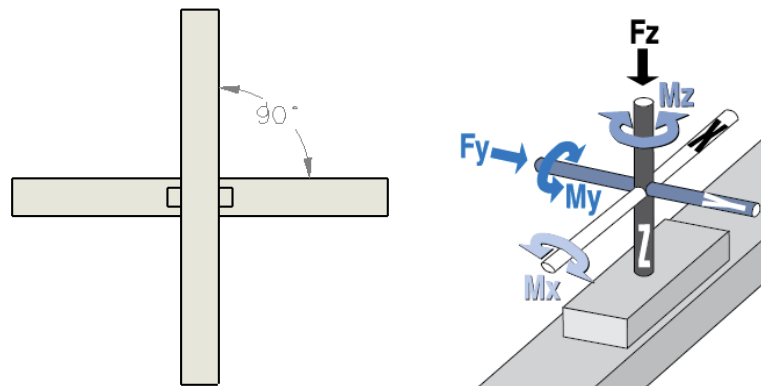

Figure 10: (Left) "Y" and "Z" actuators mounted correctly perpendicular to each other (Right) Key showing external forces on actuator
- In an X-Y-Z system, is the Z-axis mounted perpendicular to the Y-axis? Misalignment in this plane will apply an unfavorable bending moment on the Y-axis actuator's bearing system in any or all possible axes. (See figure 10.)